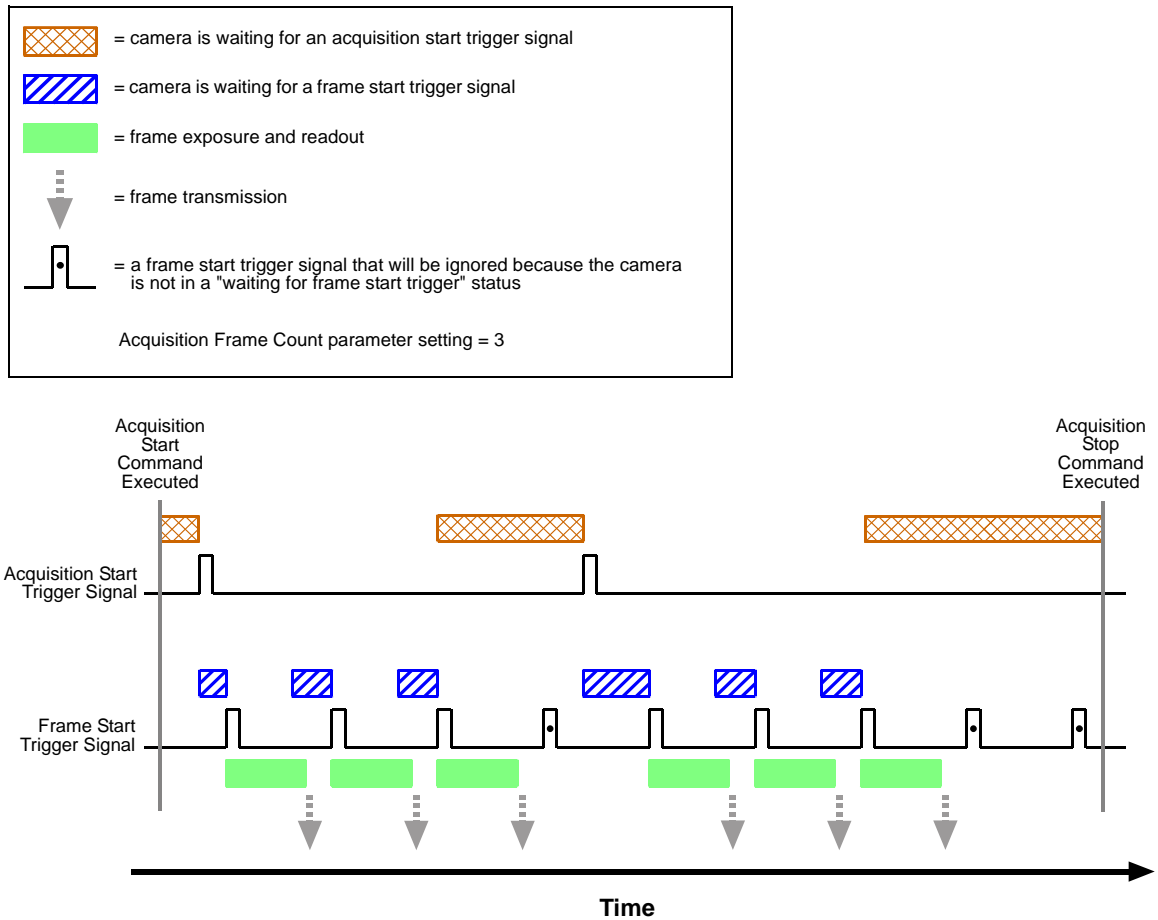

Fig. 50: Acquisition Start and Frame Start Triggering
When reading the material in this chapter, it is helpful to refer to Figure 50 on page 85 and to the use case diagrams in Section 7.11 on page 148. These diagrams present the material related to the acquisition start and stop commands, the acquisition mode, the acquisition start trigger, and the frame start trigger in a graphical format.
- set to **on**, the initial acquisition status of the camera will be "waiting for acquisition start trigger" (see Figure 50 on page 85).
Assuming that an acquisition start trigger signal has just been applied to the camera, the camera will exit from the "waiting for acquisition start trigger" acquisition status and enter a "waiting for frame start trigger" acquisition status. Applying a frame start trigger signal to the camera at this point will exit the camera from the "waiting for frame start trigger" acquisition status and will begin the process of exposing and reading out a frame (see Figure 50 on page 85). As soon as the camera is ready to accept another frame start trigger signal, it will return to the "waiting for frame start trigger" acquisition status. A new frame start trigger signal can then be applied to the camera to begin another frame exposure.
(When reading this section, it is helpful to refer to Figure 50 on page 85.)